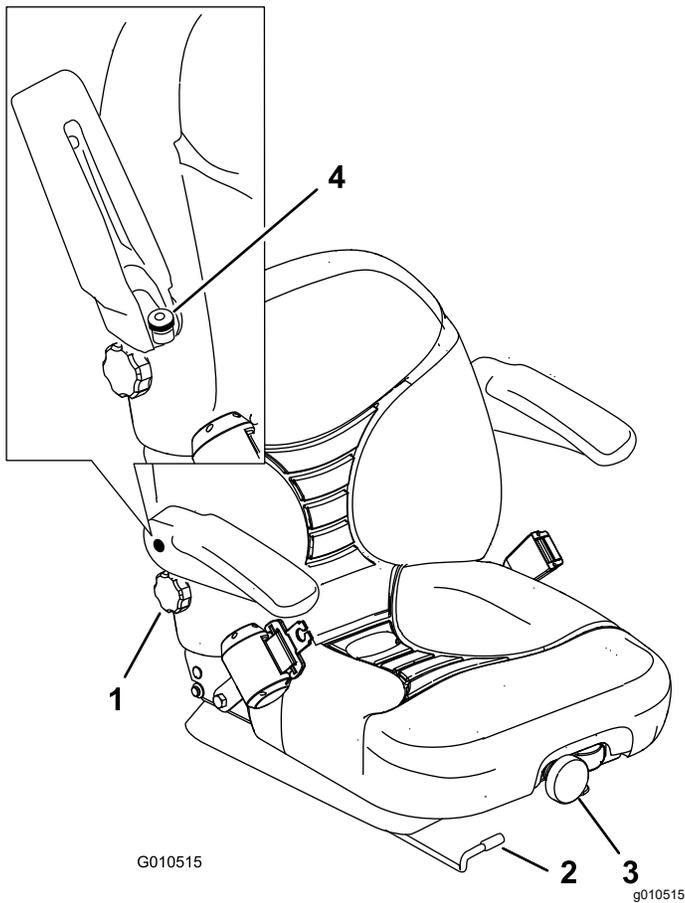

Figure 33
To adjust the seat back, turn the knob under the right armrest, in either direction, to provide the best comfort (Figure 33).
Raise the armrest and turn the knob, in either direction, to provide the best comfort (Figure 33).
1. Move the lever sideways to unlock the seat (Figure 33).
To adjust the seat, turn the front knob in either direction to provide the best comfort (Figure 33).